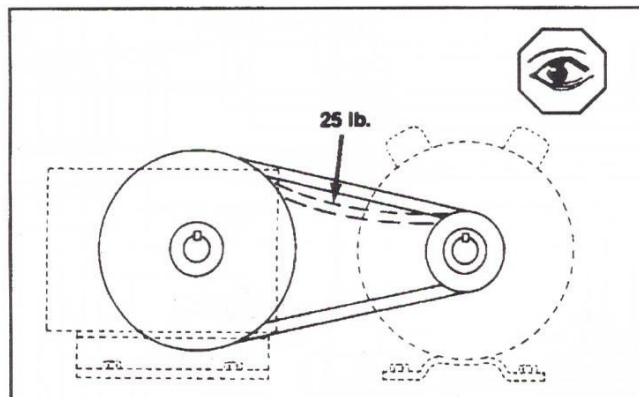

Figure 11: Measuring pump belt deflection
1. Measure belt deflection at the longest span of belt, midway between the pulleys. With a 25-lb vertical force applied, ensure the deflection is no more than 1/2" to 5/8" (see Figure 11).